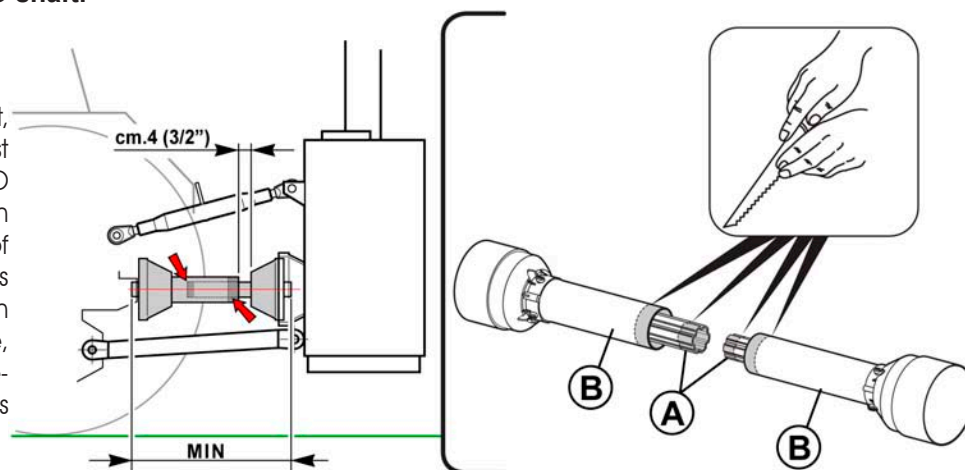

FIG. 4.17
By using the tractor hydraulic lift, place the machine in the closest point between the respective PTO shafts and check that the PTO length is correct. Check that the length of overlap between the shaped pipes is not less than 2/3 of the stroke with the PTO shaft closed. Otherwise, cut the excess part of both the telescopic pipes (A) and the guards (B) (see FIG.4.17).